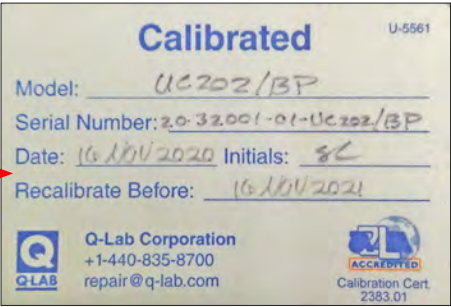

Figure 13.2d: UC202 Temperature Smart Sensor Calibration Label on Case
- Calibration information is shown on the sensor calibration certificate and on a Smart Sensor case label (Figure 13.2c and Figure 13.2d).